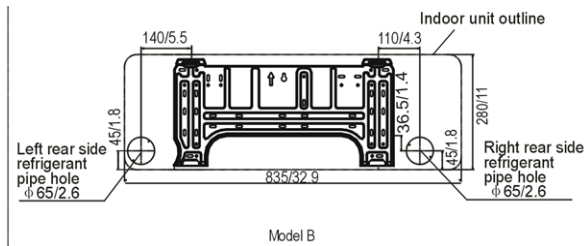
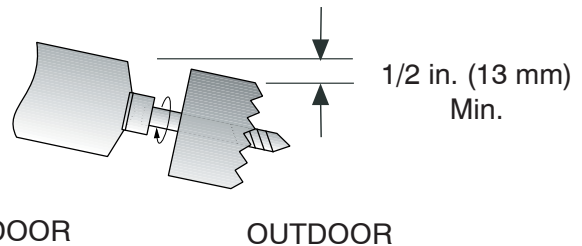

Fig. 5 – Mounting Plate - Model sizes 09, 12
Fig. 8 – Drill Holes
1. Determine the pipe hole position using the mounting plate as a template. Drill pipe hole diameter per values given in Fig. 5 through 7. The outside pipe hole is 1/2-in. (13 mm) min. lower than inside pipe hole, so it slants slightly downward (see Fig. 8).